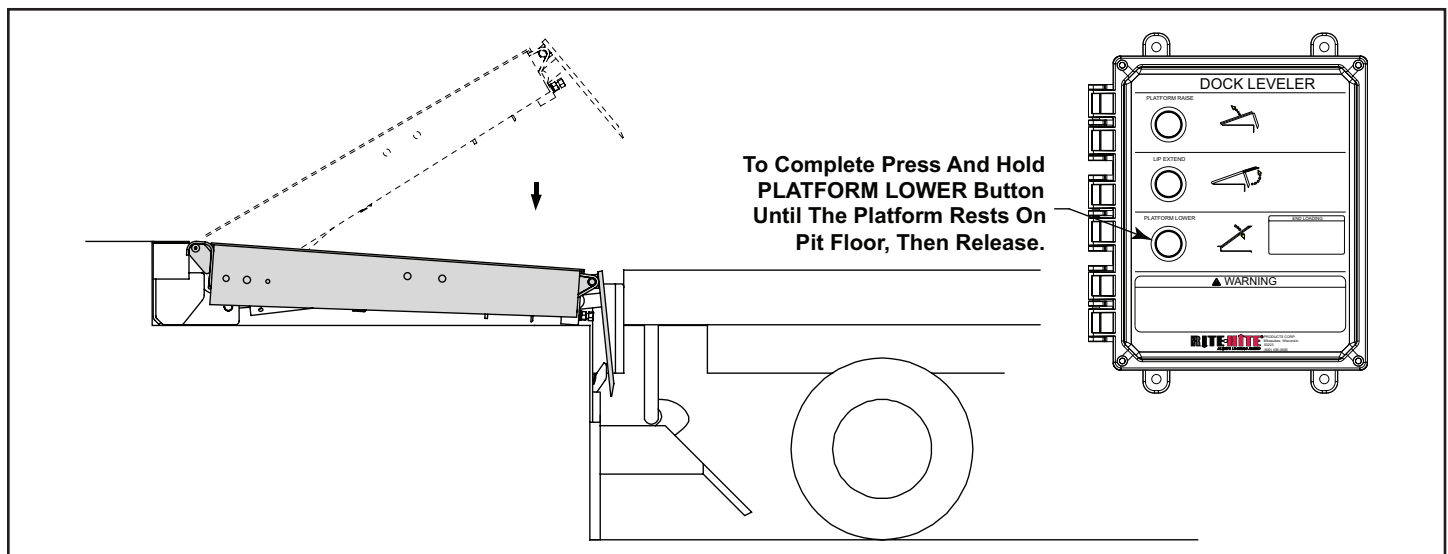

FIGURE 7 - BELOW DOCK END LOAD - LOWER LEVELER
3. Press and hold the PLATFORM LOWER button until the platform comes to rest on the pit floor. Release the button. See Figure 7.